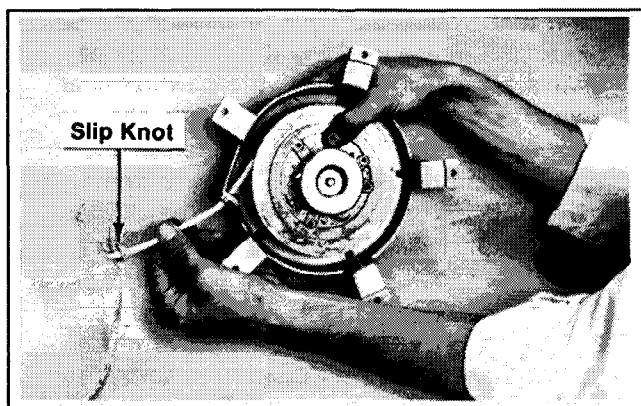

Figure 7-23. Winding Rope Onto Pulley.
17. Hold the pulley firmly with thumbs and allow the pulley to rotate **slowly** until the slip knot reaches the rope guide bushing of housing. Refer to Figure 7-23.